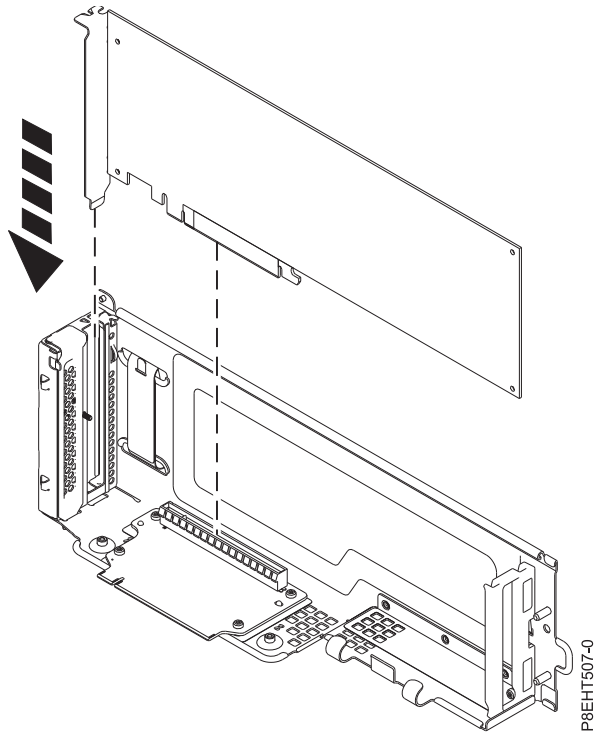

Figure 42. Inserting PCIe card into PCIe riser
2. Insert the replacement PCIe adapter into the PCIe riser, aligning it properly and inserting it fully into the slot. See Figure 42 on page 43.